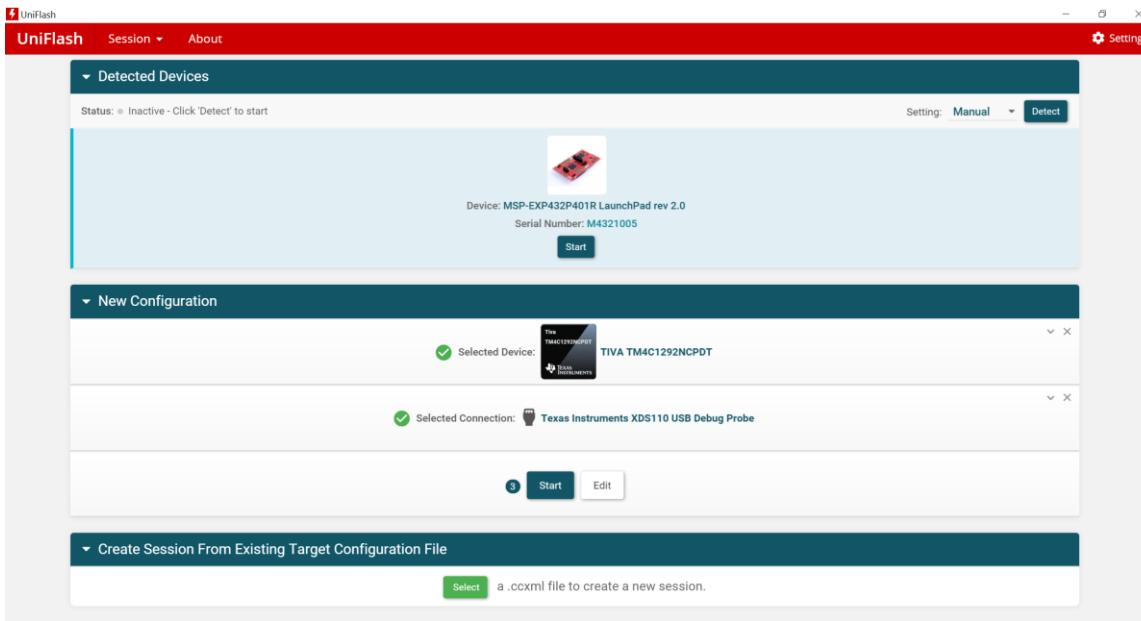

図 17. Device Configuration in UniFlash
- After starting a new UniFlash session, the detected device will be an MSP432P401R LaunchPad if using the onboard XDS110-ET. A new configuration must be selected. The device is a *Tiva TM4C1292NCPDT*, and the connection is the *Texas Instruments XDS110 USB Debug Probe* (see 図 17).